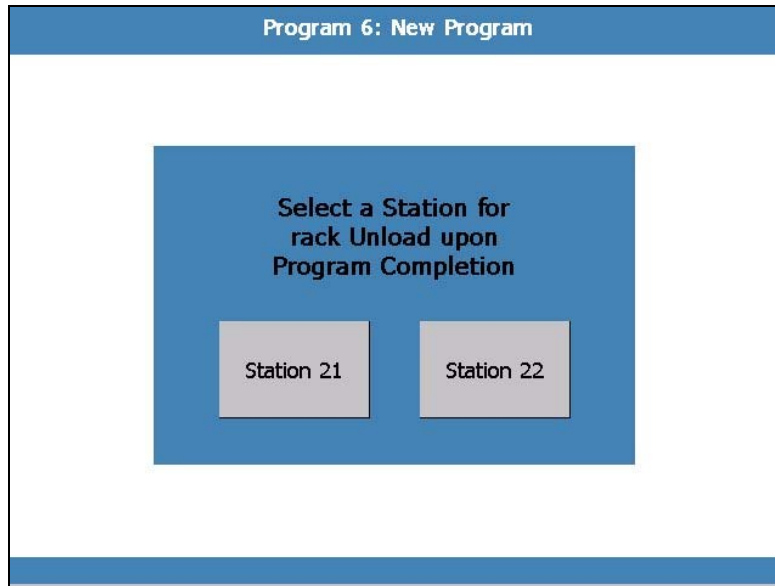

Figure 6-8: Unload Station Selection Screen
18. Racks may be unloaded at Station 21 and 22. To program the station at which racks are unloaded, select Unload Station from the Program Steps Summary Screen. The following screen shown in Figure 6-8 will be displayed.